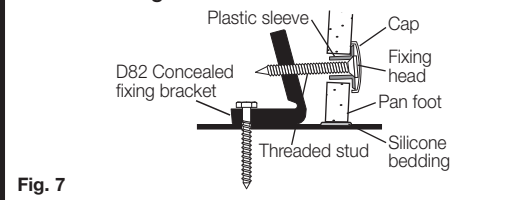

Fig. 7
- 7- Connect pan to connector and locate plastic sleeve into holes in the pan. Fit screw into the bracket and tighten to bed pan to floor while ensuring level, as detailed in Fig. 7. **IMPORTANT - DO NOT OVER TIGHTEN, AS THIS MAY CRACK THE PAN FOOT.** Snap on plastic cap, as detailed in Fig. 7.